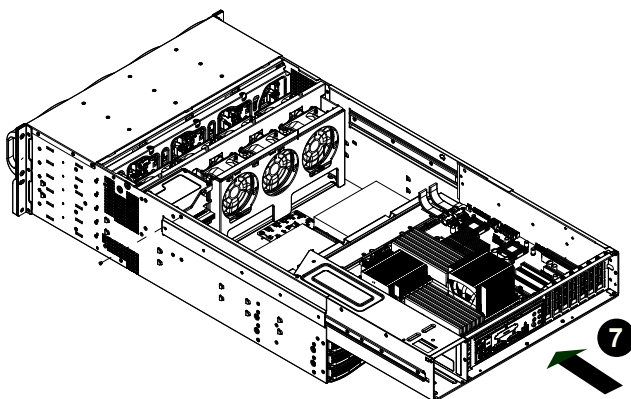

Figure 4-10: Slide Back the Motherboard Tray
2. Secure the bracket using the screw provided as shown in Figure 4-10.